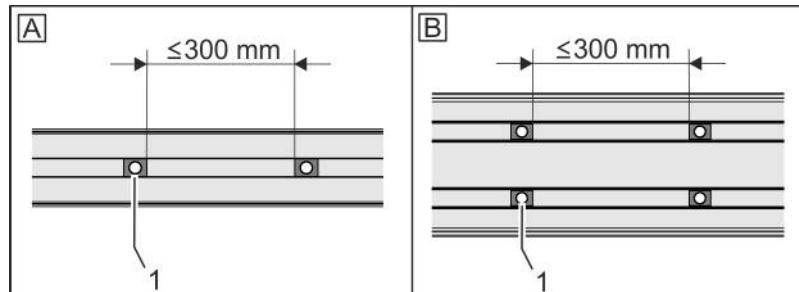

Fig. 16: Positioning slot stones
- 2.** Ensure that a distance of 300 mm between the slot stones (Fig. 16/1) is not exceeded at maximum load.